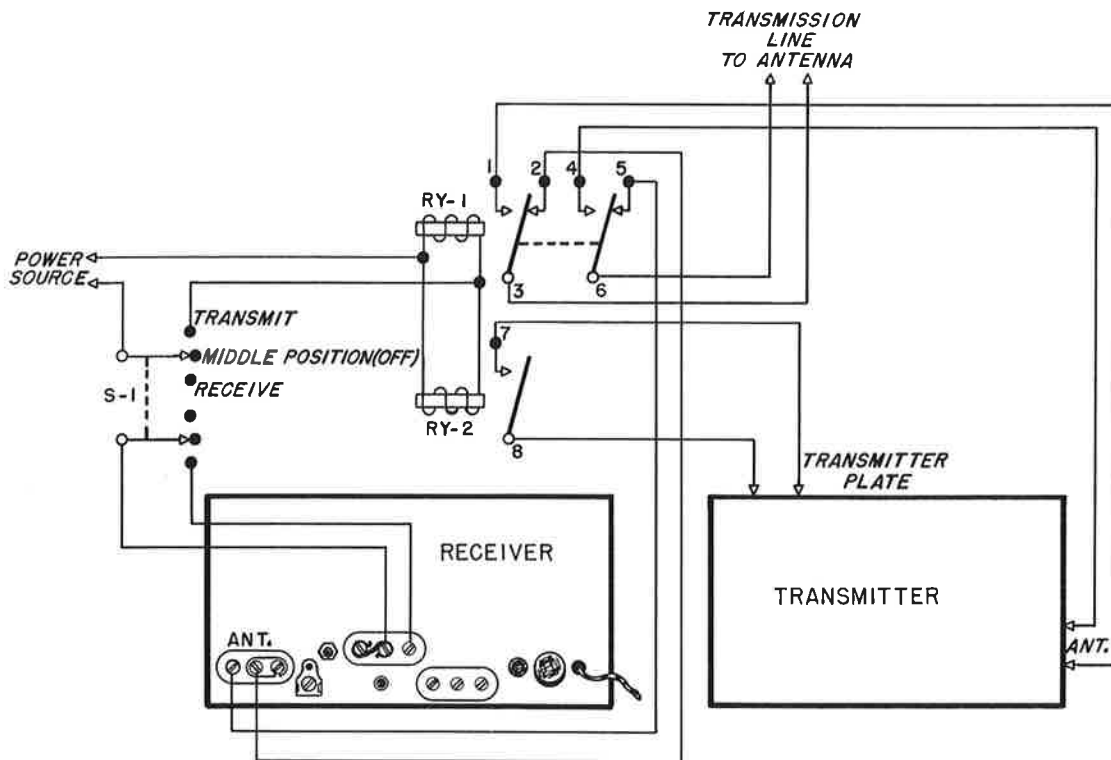

Figure No. 5. Typical Antenna Switching System
A double-pole, double-throw relay possessing good high-frequency insulation is suitable. A second relay and a three position switch may be used to control the transmitter plate supply and the B+ circuits. This second relay should be a single-pole, single-throw type having one normally open pair of contacts. The schematic diagram of this type of control circuit is shown in Figure No. 5. With S-1 in the receive position the antenna transmission line is connected to the receiver by contacts 2, 3, 5 and 6 of relay RY-1; the B+ circuit of the receiver is completed by the switch. (The St'by-Rec. switch on the receiver should be set at St'by). With the switch in the transmit position RY-1 contacts 1, 3, 4 and 6 are closed transferring the antenna transmission line to the transmitter; contacts 7 and 8 of relay RY-2 close to complete the plate supply circuit to the transmitter. Contacts 7 and 8 of relay RY-2 should be in series with the primary of the transmitter plate supply transformer. Thus, the station is in the receiving condition with switch S-1 in the receive position and in the transmitting condition with S-1 in the transmit position. With S-1 in the mid-position the receiver B+ circuit and transmitter plate supply circuit are both open. In the mid-position the receiver B+ circuit is controlled by the St'by-Rec. switch on the front panel of the receiver.
(1) Seat the A.C. jumper plug and all tubes firmly in their sockets.
(2) Connect the loudspeaker to the 8-ohm terminals of the audio output terminal strip at the rear of the receiver. Access to the terminal strip is gained by removal of the metal shield cover. This cover should be replaced after completion of the connections. A 500-ohm connection is provided if it is desired to connect to a 500-ohm line.
(3) Connect a good external ground to the screw-type lug located at the rear of the receiver below the antenna terminal strip.
(4) Connect the antenna as recommended in paragraph 2-2.
(5) The St'by-Rec. switch terminal panel at the rear of the receiver is provided for convenience in connecting an external B plus switch or relay. The panel is so arranged that either a series or a parallel connection may be made. Figure No. 5 illustrates a typical parallel connection. In the example shown the jumper is connected across terminals 1 and 2 and the external switch is connected to terminals 2 and 3. For a series arrangement, the jumper is removed and the switch is connected to terminals 1 and 2. The essential difference between the two types of connections is that with the parallel type the St'by-Rec. switch on the receiver is operative while in the series type the St'by-Rec. switch is inoperative.
(6) Connect the power cord to a 115 volt, 50/60 cycle A.C. source of supply. In installations where the source is 220/240 volts a few changes are required to convert the NC-183D to accept this supply. These changes are made directly on the power transformer terminal lugs and are as follows: